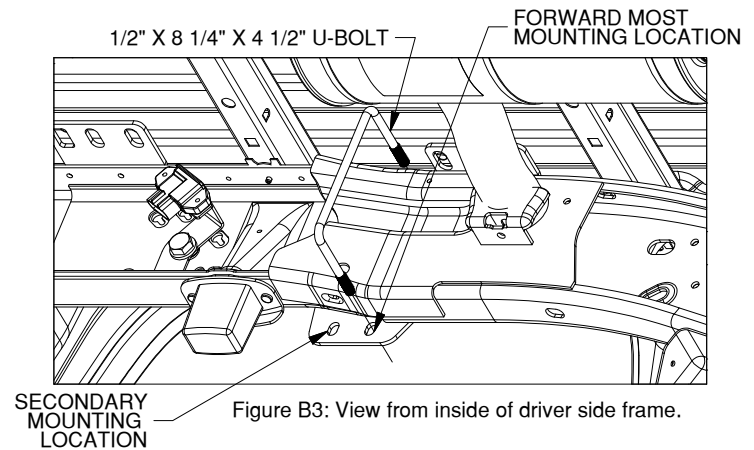
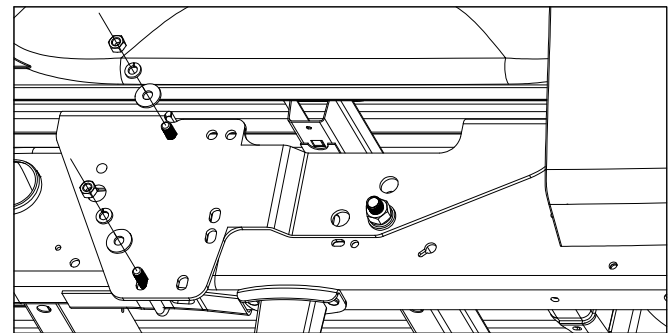

Figure B3: View from inside of driver side frame.
Figure B4: View from outside of driver side frame.
2. **Install the U-bolt.** Locate a 1/2" x 8 1/4" x 4 1/2" U-bolt, two 1/2" flat washers, 1/2" split lockwashers, and 1/2" finish nuts. Pass the U-bolt from the inside of the frame through the two forward most mounting locations in the frame bracket, see figure B3. It is acceptable to install the U-bolt in a secondary location if frame geometry prohibits using the forward location. Attach the U-bolt to the frame bracket with 1/2" flat washers, 1/2" split lockwashers, and 1/2" finish nuts, as shown in figure B4.